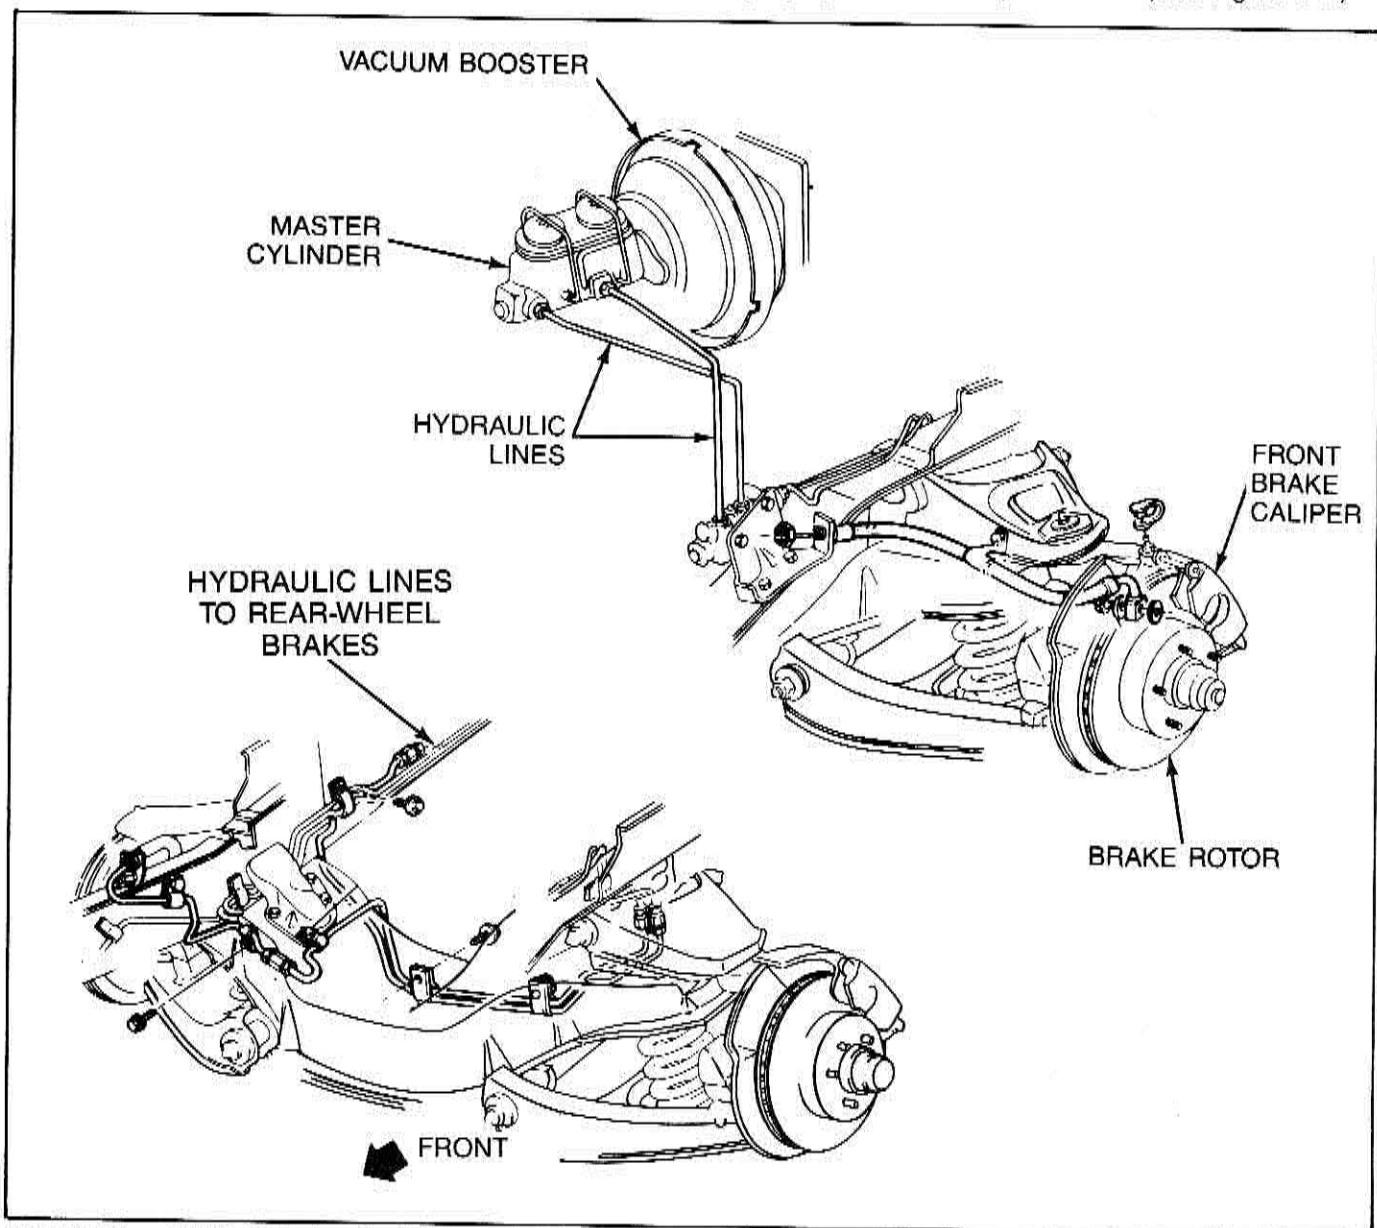

Figure 6-1 — Typical Hydraulic System
As brake pedal force is reduced, brake fluid pressure in the master cylinder is also reduced. This allows the drum brake retractor springs to retract the shoe and lining assemblies from contact with the drum which forces brake fluid out of the wheel cylinder assemblies and back into the master cylinder assembly. The reduction in fluid pressure also allows the disc brake caliper pistons to retract slightly by action of the piston seal. (See Figure 6-1.)
1. Fill the master cylinder reservoirs with brake fluid and keep at least one-half full of fluid during the bleeding operation. (See Figure 6-1.)